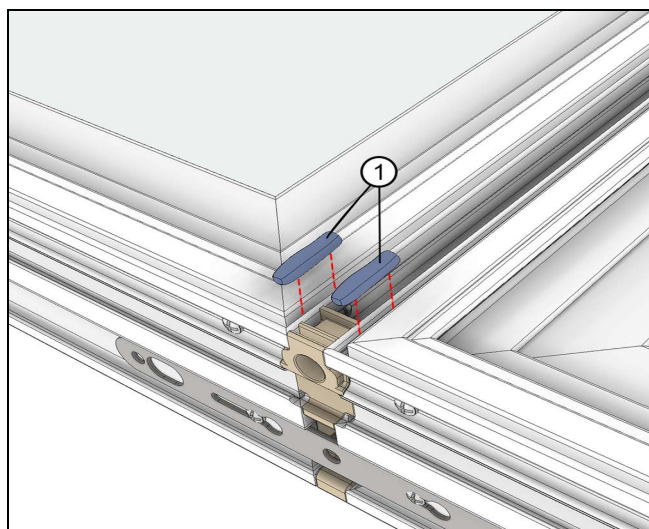

Figure 11
7. Using a high quality sealant loaded into a caulking gun, add 1" long x 1/8" wide bead of silicone to each end of accessory kerf. Locate bead on top of the inserted kerf weather strip to seal ends of the mull cover. See Figure 11.